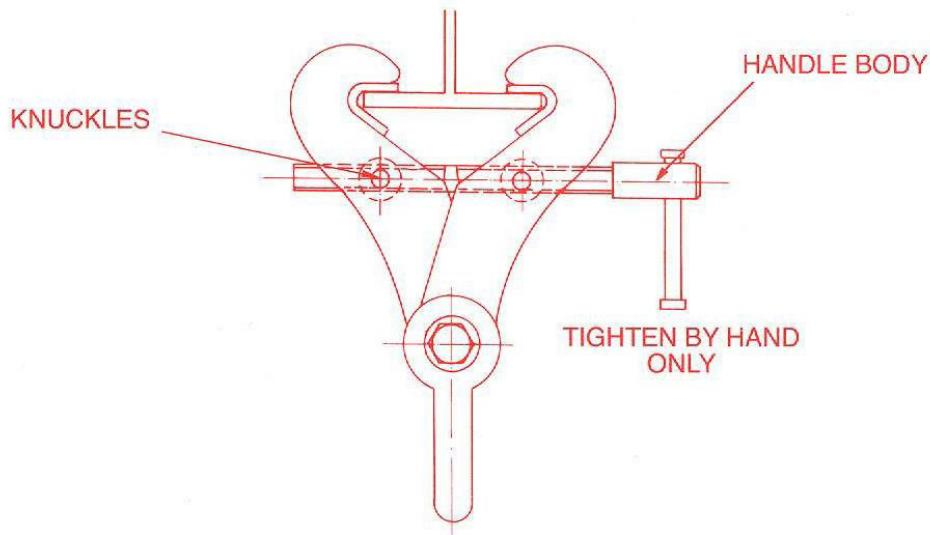

Fig 11.1
11.1 Beam clamps are available in two basic designs, the permanently fixed type and the more popular adjustable type. (fig 11.1)